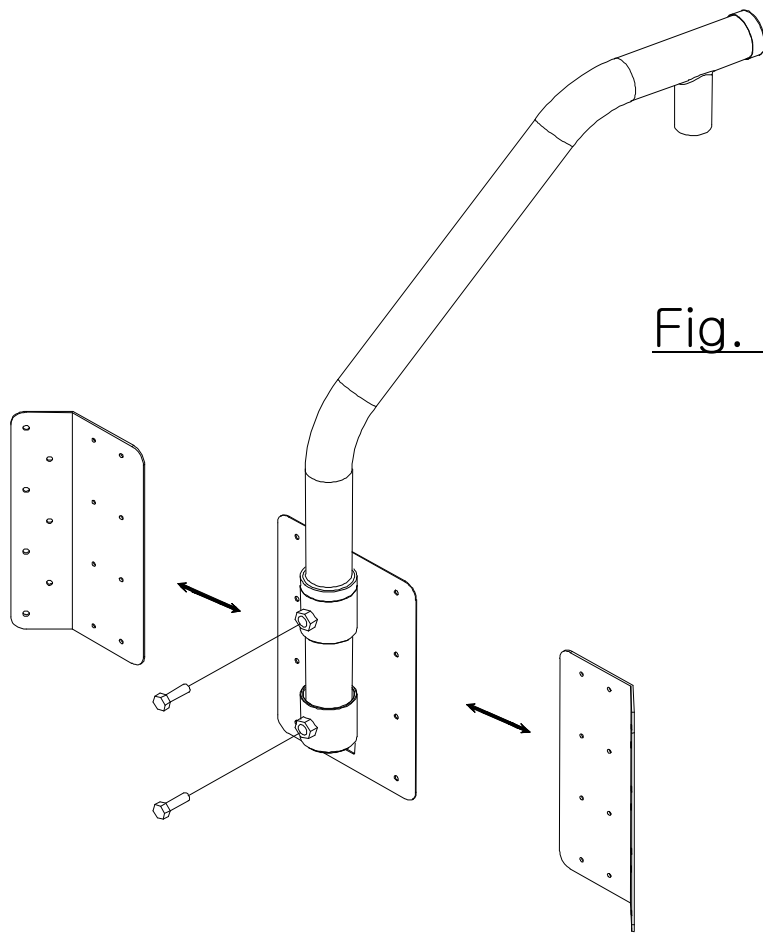

Fig. 1
1. Loosen the nuts holding the brake mounting plate. Loosen the nuts only enough to pull the arm out of the guide hoops. (see Figure 1)